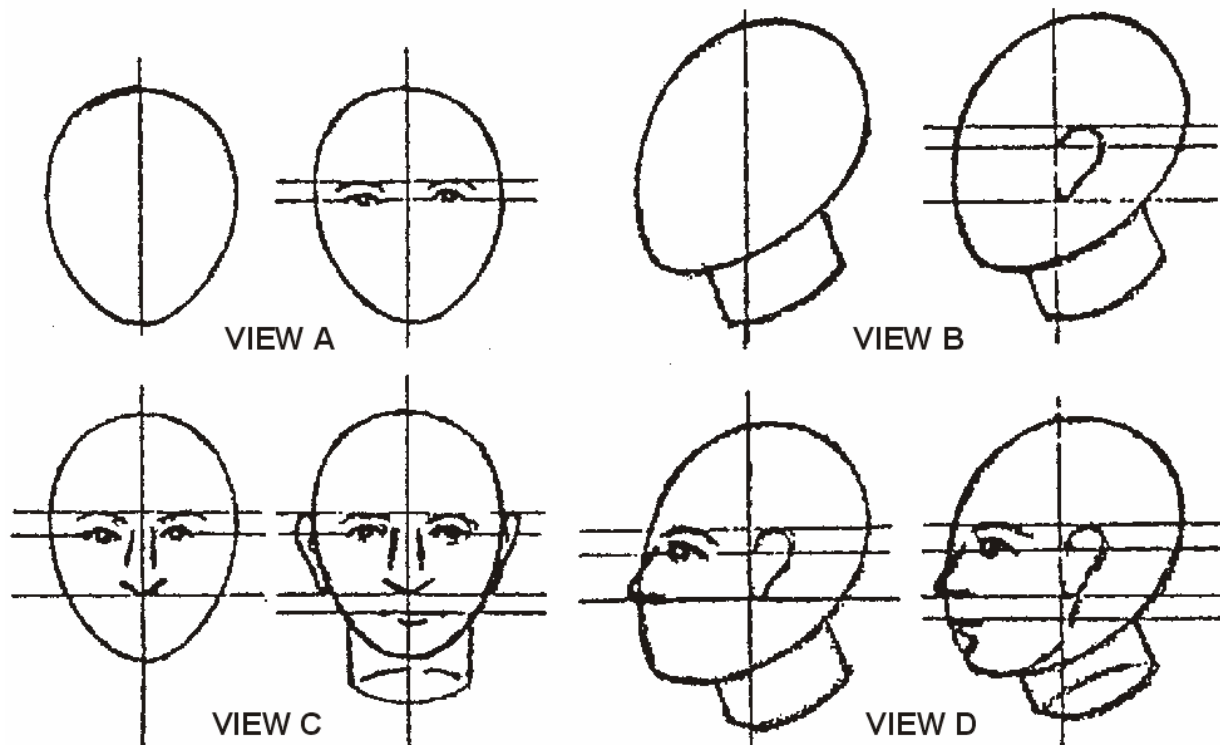

Figure K-12. Construction views of the head.
(1) The eyes are located on a horizontal centerline with the eyebrows slightly above the eyes (Figure K-12, View A). The top of the nose is located on the horizontal centerline (Figure K-12, View C). The mouth is located on a line drawn two-thirds the distance from the chin to the
bottom of the nose (Figure K-12, View C). The head rests securely on the neck, lower portion of the head (Figure K-12, View C).
(2) The side view of the head is slightly different from the front view (Figure K-12, Views B and D). In a side view, the head can be tilted with the neck toward the rear and slanted. The ear is just behind the vertical centerline with its top and bottom located on the same guidelines that were used for the front view. The eye is located in a slightly indented position again on the horizontal centerline. The nose projects out from the edge of the head's basic form. The jaw curves down from the ear.
- (d) The bases of the nose, cheekbone, ear lobe, and skull lie on a line drawn across the head (Figure K-12).